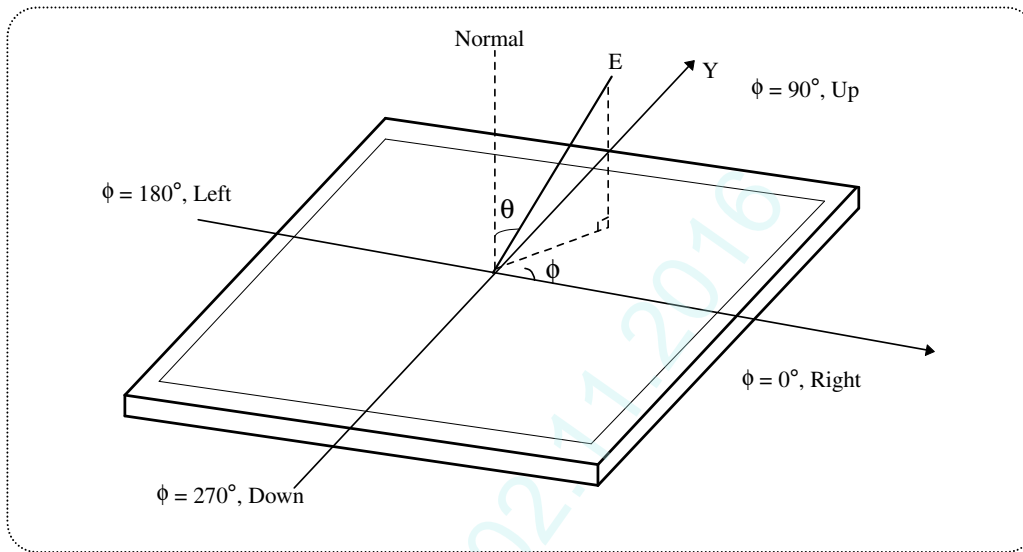

FIG.10 Viewing angle
6. Viewing angle is the angle at which the contrast ratio is greater than 10. The angles are determined for the horizontal or x axis and the vertical or y axis with respect to the z axis which is normal to the LCD surface. For more information see FIG.10 **(By PR880)**
The GAMMA we calculate from the log-log representation (FIG.10)